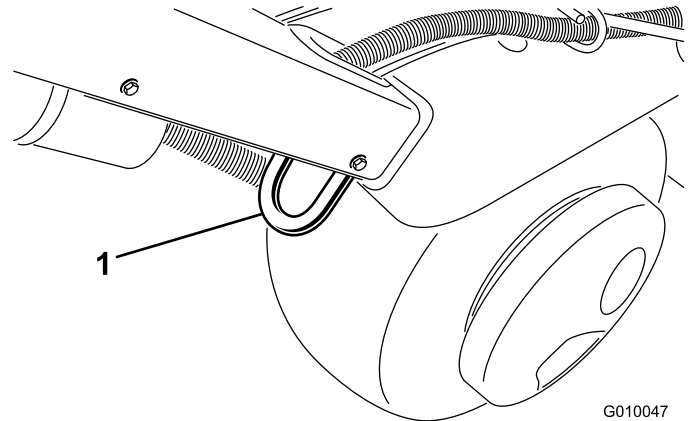
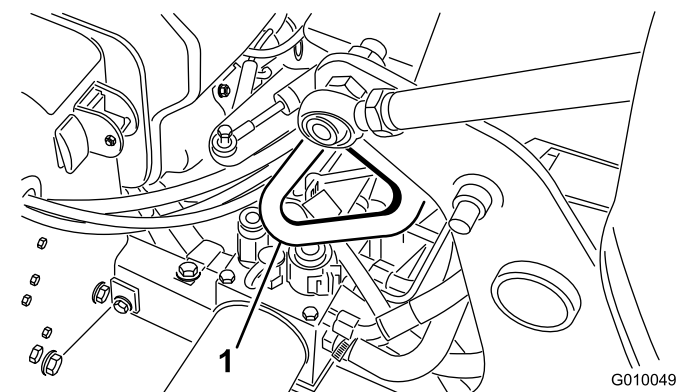

Figure 32
Figure 34
3. Securely fasten the aerator tie downs (Figure 32 through Figure 34) to the trailer or truck with straps, chains, cable, or ropes.